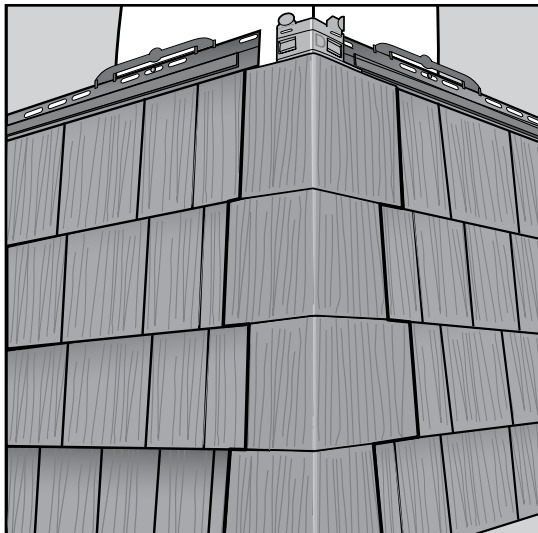

Figure 8
4. Continue installing the corner pieces as you move up the wall. Following the pattern of A, B, C, D and then repeat (*Figure 8*).